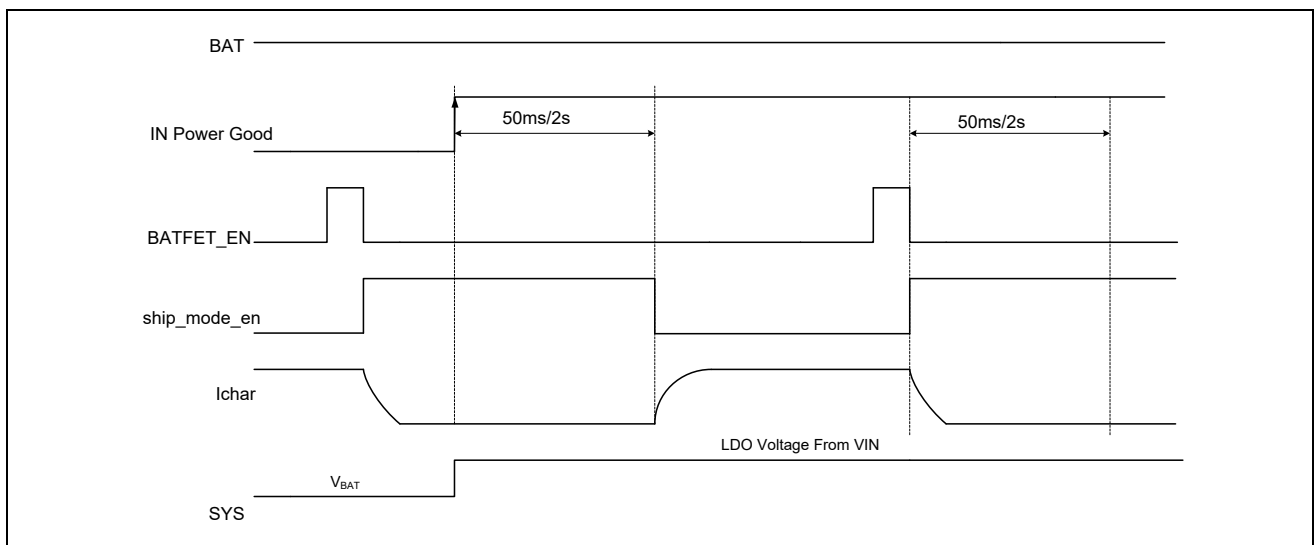

Figure 9. Enter Shipping mode and Exit Shipping mode by IN Good Signal
1.2) When the IC is in the shipping mode and a valid VIN powers on, the ET9562 could be woken up too. After effective VIN voltage is preset, the ET9562 could be woken up from the shipping mode by the IN Power Good signal(refer to Table 3 and Figure 9).